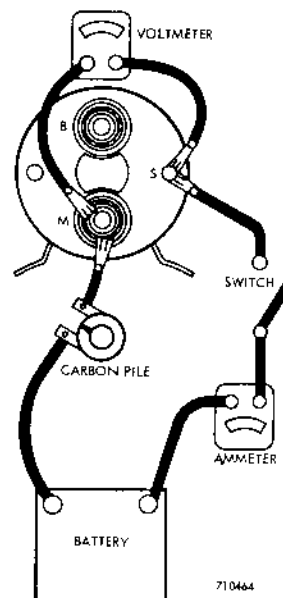

Figure 10 - Pull-in Winding Test
1. Make the test connections as shown in Figure 10.